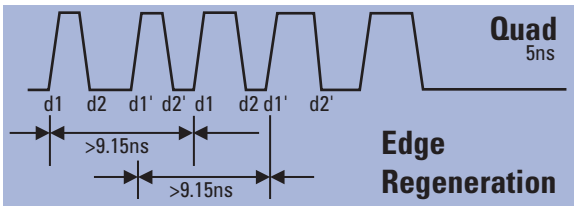

Figure 5-32: Quad mode
The quad mode (refer to Figure 5-32) operates at up to 200 MHz, with up to 64 Tsets and 16 Edgesets. Full SCAN, MTO, and DSSC operation are supported. Vector depth is 64 Meg, with 3-bits per pin/vector. Up to three (3) edges — D0, D1, and D2 in drive cycles, and D3 (if previous cycle is receive, and R0 in receive cycles, as well as edge strobe are available.